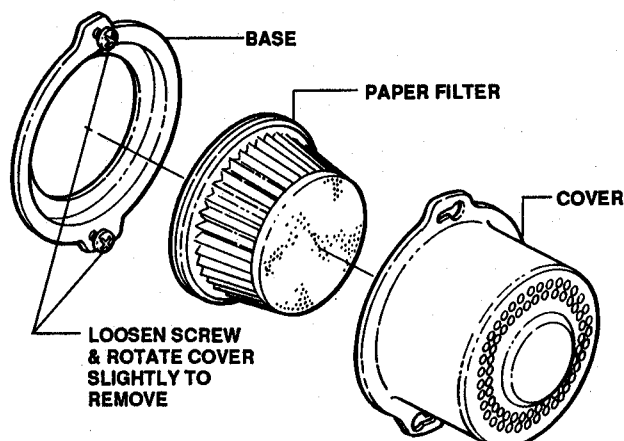

FIGURE 13
CHECK AIR CLEANER and replace paper filter once a year or every 100 operating hours. More often if used in extremely dusty conditions. Refer to Figure 13.
1. Loosen two (2) cover screws. (These need not be removed completely).
2. Rotate cover slightly and remove it from base. See Figure 13.
3. Replace paper filter with new filter as shown in Figure 13. (Replacement filters are available at any Authorized Service Center.)